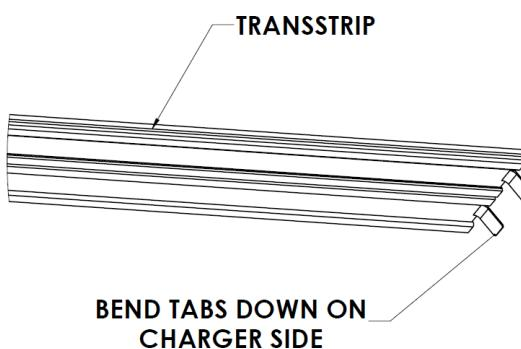

Figure 313: **Bend the Male Terminal Tabs Approximately 45°**
4. Use pliers to bend the male terminal tabs approximately 45° (Figure 313).